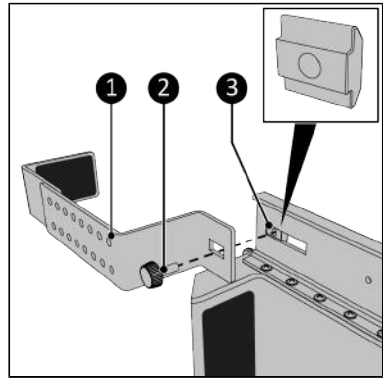

Figure 62.
- Screw the bracket (Figure 62, pos. 3) to the main rail in the front position using the knob screw (Figure 62, pos. 2). Make sure you connect the knob screw to the slide nut (Figure 62, pos. 1).